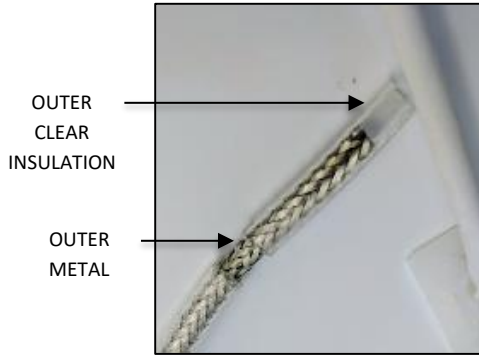
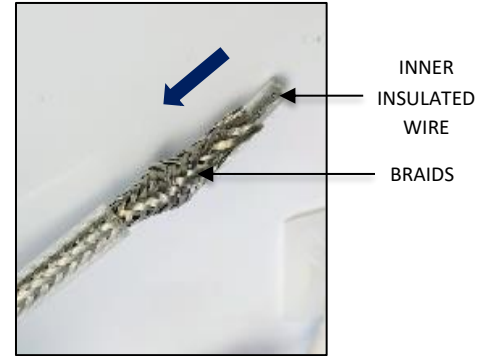

FIG. 30
FIG. 31
- Strip off 1.00" of outer clear insulation exposing the outer metal braiding as shown in FIG. 30 below. **Be careful not to cut or damage the outer metal braiding.** Gently push braiding down to loosen the individual braids exposing the inner insulated wire as shown in FIG. 31 below.